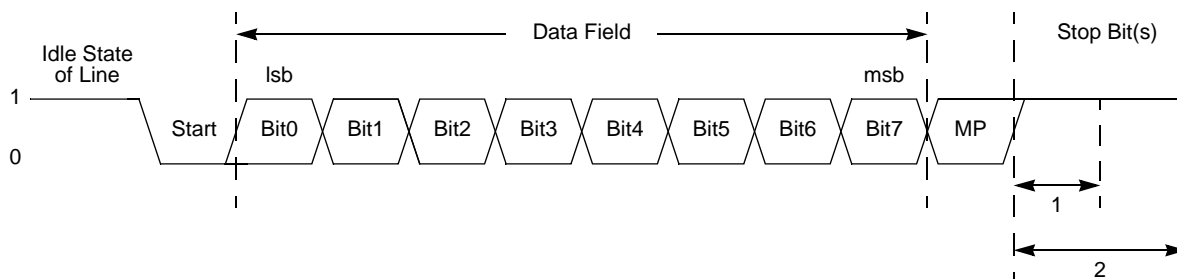

Figure 13. UART Asynchronous MULTIPROCESSOR Mode Data Format
The UART has a MULTIPROCESSOR (9-bit) mode that uses an extra (9th) bit for selective communication when a number of processors share a common UART bus. In MULTIPROCESSOR mode (also referred to as 9-Bit mode), the multiprocessor bit (MP) is transmitted immediately following the 8-bits of data and immediately preceding the Stop bit(s) as illustrated in Figure 13. The character format is: